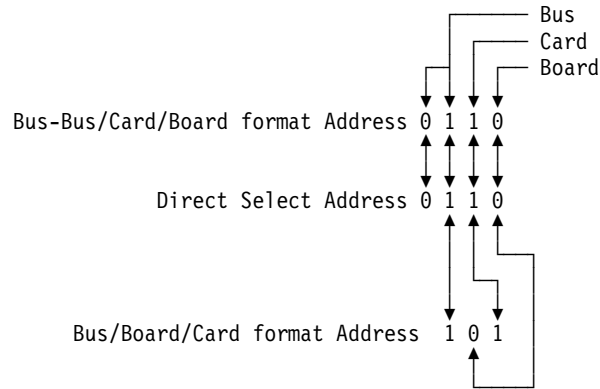

Figure 86. Format Conversion
- Use Figure 86 on page 881 to understand how addresses in the Bus/Board/Card format relate to the Bus-Bus/Card/Board format. You can also use Figure 86 on page 881 to understand how addresses in the Bus/Board/Card format relate to the direct select addresses used in “Expansion Tower Locations and Addresses” on page 687.
x1 = System bus	The one, two or three digit decimal representation of the hexadecimal Bus value of the Bus/Board/Card format Address at the bottom of Figure 86 on page 881.
x2 = System board	The one or two digit decimal representation of the hexadecimal Board value of the Bus/Board/Card format Address at the bottom of Figure 86 on page 881.
x3 = System card	The one or two digit decimal representation of the hexadecimal Card value of the Bus/Board/Card format Address at the bottom of Figure 86 on page 881.